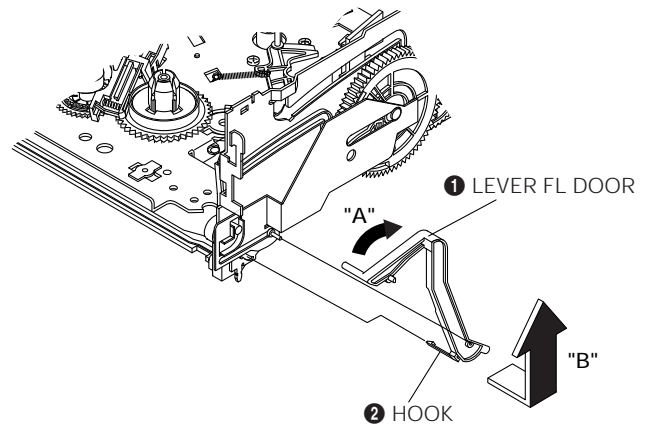

Fig. 1-5 Lever FL Door Removal
- 1) Remove the Lever FL Door. (Refer to Fig. 1-5)
- 2) Pull the Holder FL Cassette Ass'y ❶ to the eject position.
- 3) Pull the Holder FL Cassette Ass'y ❶ as grasping the Holder FL Cassette Ass'y ❶ and Lever FL Cassette-R ❷ in the same time to release hooking from Main Base until the Boss [A], [B] of Holder FL Cassette Ass'y ❶ is taken out from the Rail [C], [D].
- 4) Lift the Holder FL Cassette Ass'y ❶ in the direction of arrow "B" in this time, you have to grasp the Lever FL Cassette-R ❷ continuously until the Holder FL Cassette Ass'y ❶ is taken out completely.